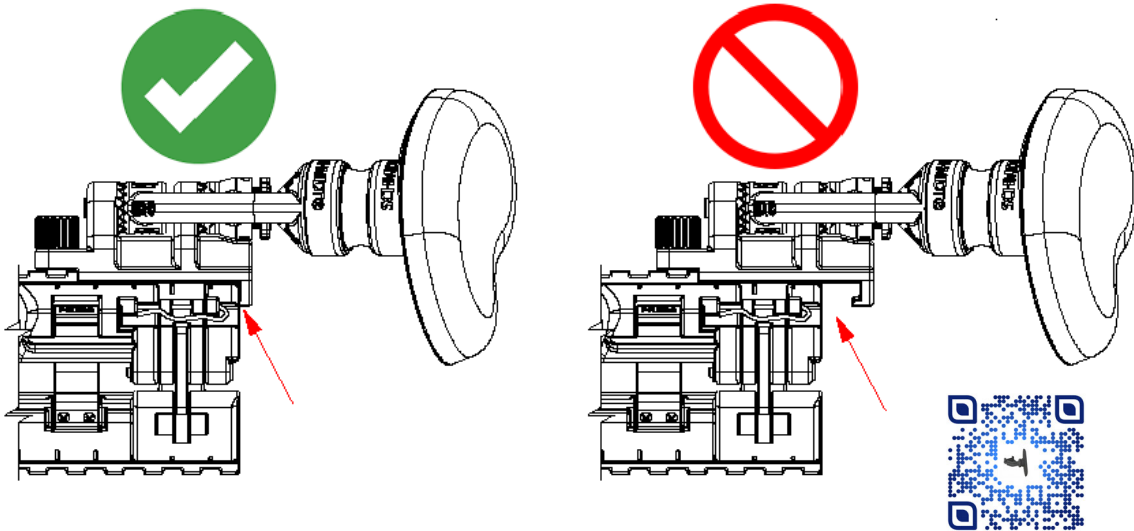

Figure 3.5
- 3.1.3 Slide Thrust Management Brace (#15) onto upper rail (#5) until it reaches the Thrust Management Brace stop. Refer to Figure 3.5 below.